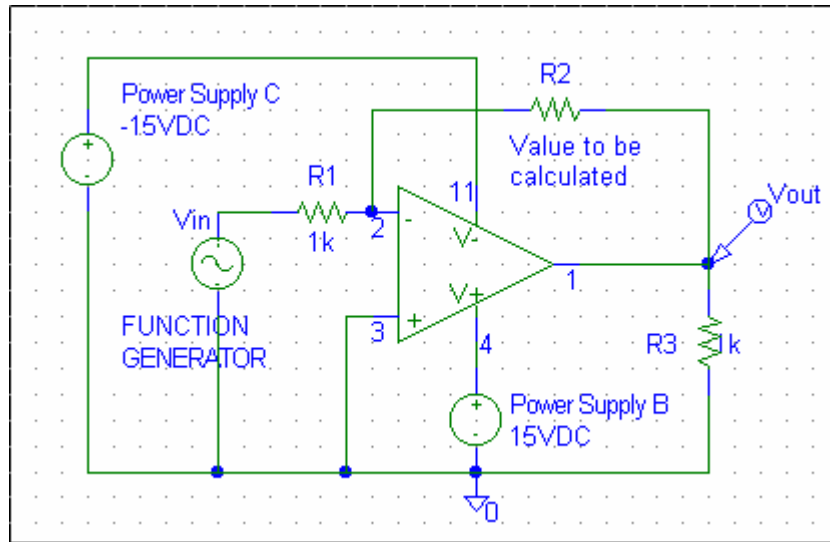

Figure 2 – PSPICE Schematic of an Inverting Op Amp
- ❑ Click the **Voltage/Level Marker**, then place it as shown in Figure 2